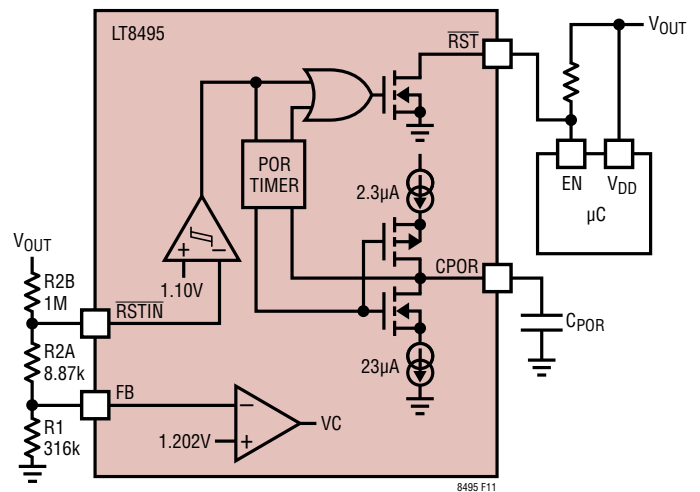

Figure 11.  $\overline{RSTIN}$  Reset Lockout
**Output UVLO:** Connecting the  $\overline{RST}$  and  $\overline{RSTIN}$  pins as shown in Figures 11 and 12 implements an output undervoltage lock out (UVLO) circuit. This circuit resets  $V_{OUT}$  powered devices when  $V_{OUT}$  is below a desired voltage by asserting the open drain  $\overline{RST}$  pin low. Note that a pull-up resistor is required on the  $\overline{RST}$  pin, but might already be integrated in the  $\mu C$ . There is typically a 23 $\mu s$  delay from the  $\overline{RSTIN}$  pin falling edge until  $\overline{RST}$  is asserted low (see Electrical Characteristics section) for glitch immunity of the  $\overline{RSTIN}$  pin. After  $\overline{RSTIN}$  rises above its threshold,  $\overline{RST}$  continues to be asserted low for a delayed time programmable by the CPOR pin capacitor.
In the example shown in Figure 11,  $V_{OUT}$  is regulated to 5V. For a desired UVLO% of 89.5%, the calculated R1, R2A, and R2B values are 316k, 8.87k, and 1M respectively.